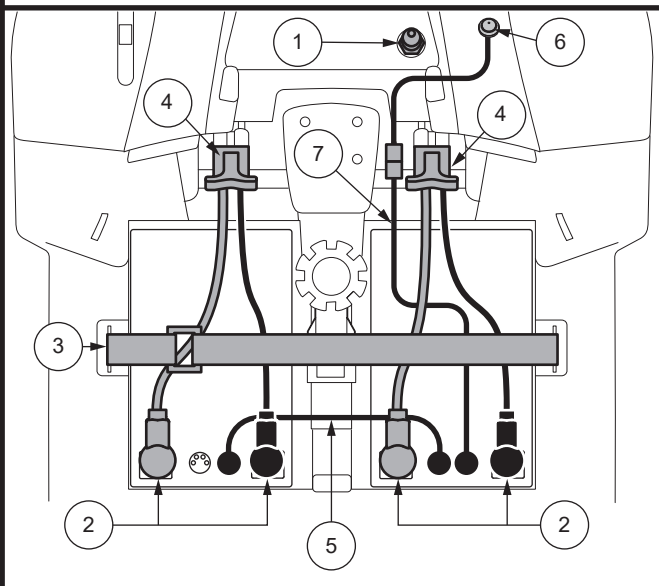

Figure 12. Battery Removal/Installation Terminals and Connections
3. Unplug both battery harnesses by pulling each harness out of its mating plug. See figure 12.
7. Place a new battery in each battery well. Face the battery terminals of each battery away from the seat post with the positive (+) and negative (-) battery terminals positioned as shown in figure 12.
WARNING! When faced with an emergency situation, the batteries can be quickly disconnected by pulling **FORWARD** on the emergency battery disconnect strap. Use caution. Be advised that turning off power to the scooter may cause the scooter to stop abruptly. To release the emergency stop and restore driving capability to the scooter, remove the seat and battery shroud, and reconnect the battery connector as shown in figure 12.
NOTE: If equipped, ensure that the battery disconnect switch is in the “on” position (-) prior to charging your vehicle’s battery. The battery will NOT charge if the battery disconnect switch is in the “off” position (O). See figure 12.
WARNING! When faced with an emergency situation, the batteries can be quickly disconnected by pressing the battery disconnect switch into the “off” position, which will cause the button to pop up. Use caution. Be advised that turning off power to the scooter may cause the scooter to stop abruptly. To release the emergency stop and restore driving capability to the scooter, press the battery disconnect button once again, pressing it down into the “on” position. See figure 12.